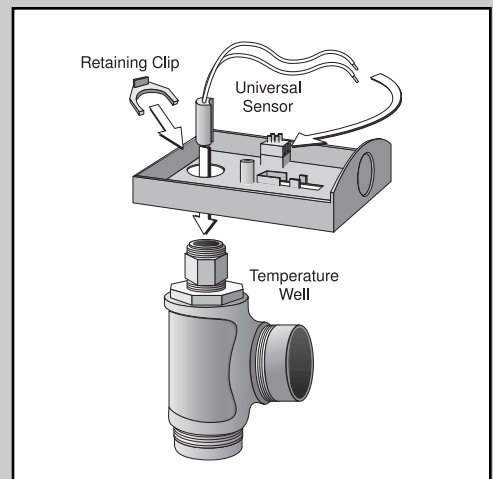

Figure 2-22
2. When installing the Universal Sensor in a well installation, ensure the well components are compatible for use with the Universal Sensor. The use of a well installation is common in piping 2" and larger. Strapping the sensor to the pipe and insulating is common for smaller pipes. (See Figure 2-22.)